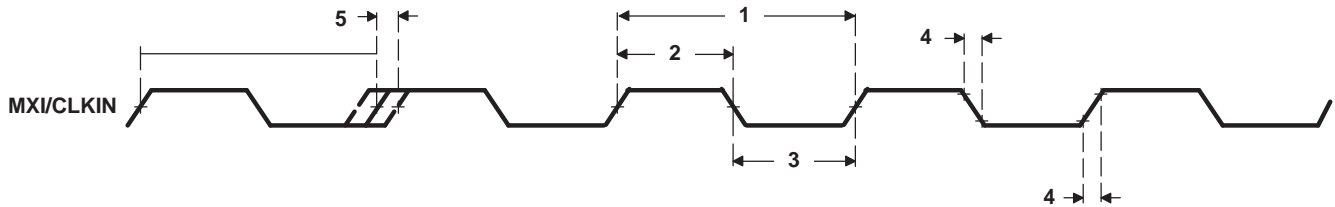

Figure 6-15. M24XI Timing
Table 6-17. Timing Requirements for M24XI (-594) Devices^{(1) (2) (3)} (see Figure 6-15)